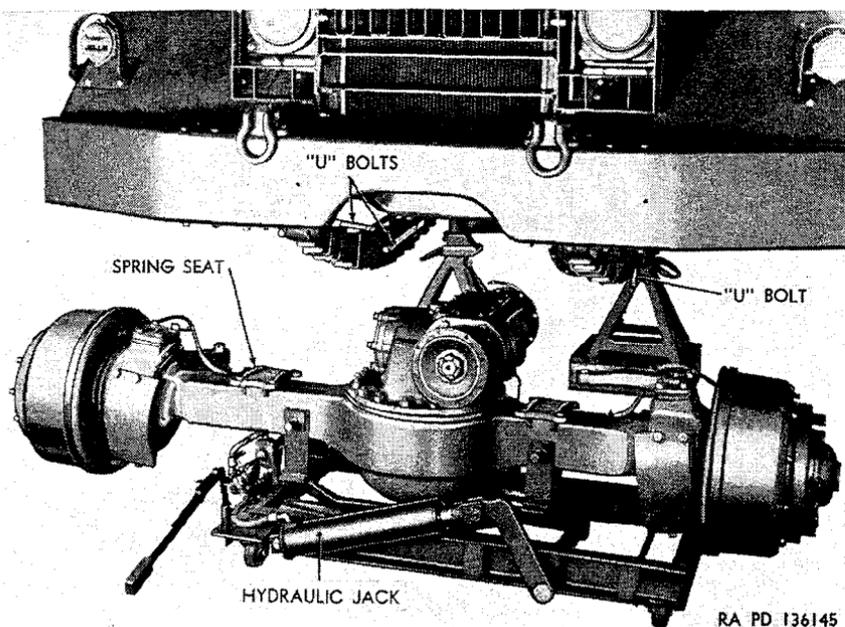

Figure 227. Removing front axle assembly.
- (9) *Remove front axle* (fig. 227). Lift the four U-bolts, two on each front spring, free of the spring seats, and lower hydraulic jack sufficiently to allow removal of axle from under truck. Pull jack with axle assembly forward and out from under front of truck. Remove spring seats from axle assembly.
- (1) *Position front axle.* With front axle supported by hydraulic jack (fig. 227) in lowered position, push jack and axle assembly under front of truck. Place left and right spring seats on axle, and making sure that all U-bolts are properly alined and that spring center bolt heads enter alinement holes in spring seats, raise axle sufficiently to permit assembly of brake lines.